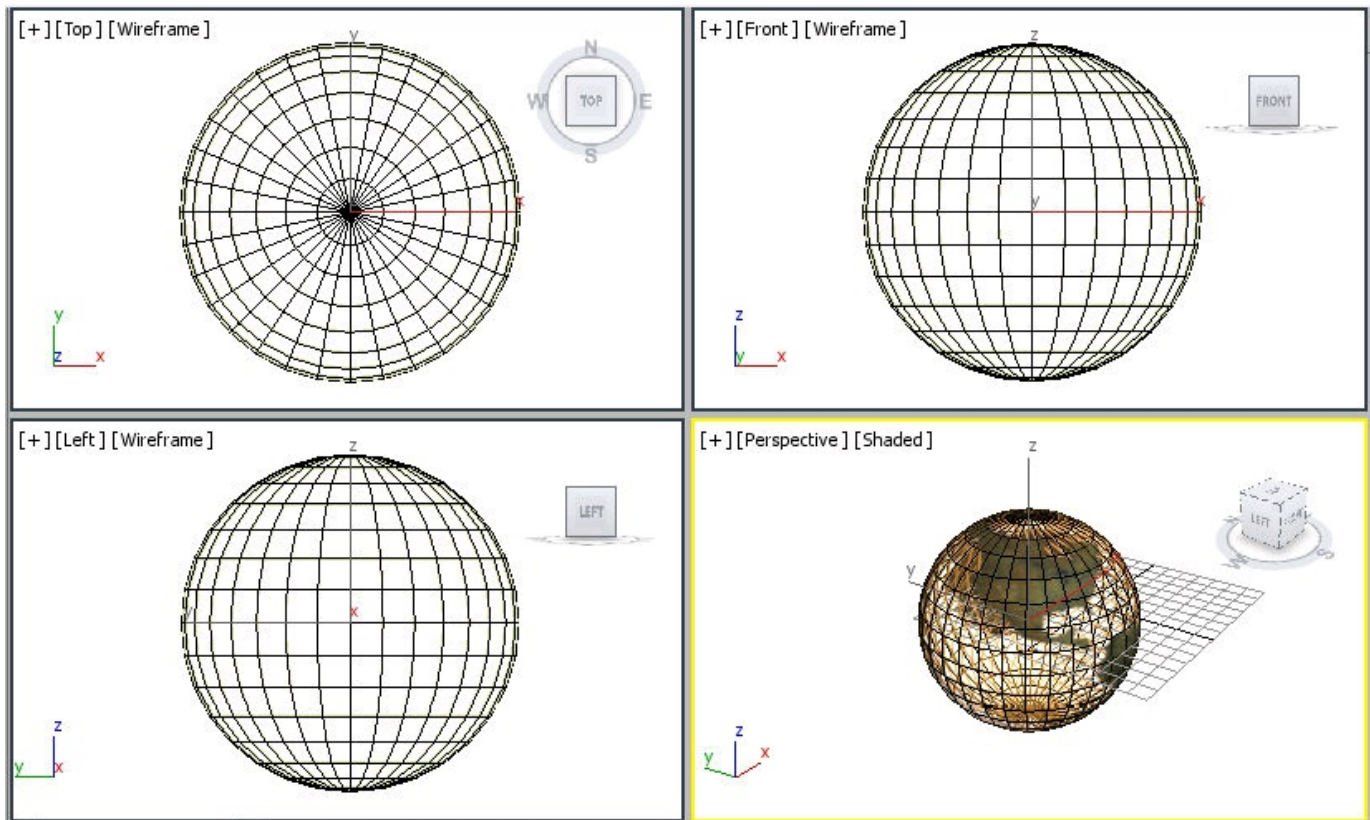

Figure 14-44 Alignment of the wireframe and the earth sphere in viewports
22. Choose the **Zoom Extents All** tool; *wireframe sphere* is aligned with *earth sphere* in the viewports, as shown in Figure 14-44.